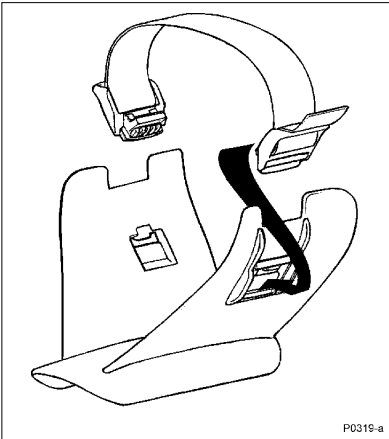

Figure 2.12 Fitting armrest strap to armrest
STEP 2 (Figure 2.12) Clip both buckles into the openings at each outer side of the armrest.